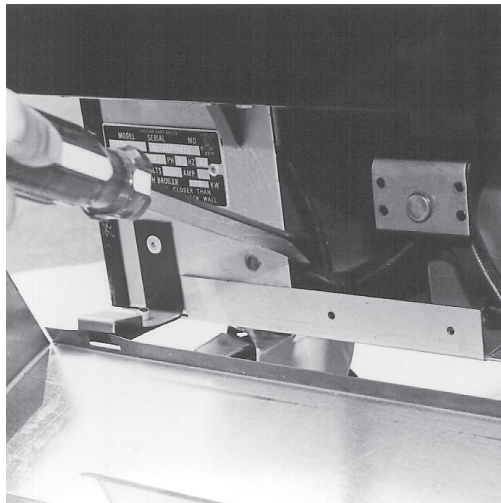

Fig. 45
2. Using a flat head screwdriver, pry up on both the left and right hand bell cranks (one at a time) until they release from the bell crank hooks. Remove the hooks from the door arm. (Fig. 45)